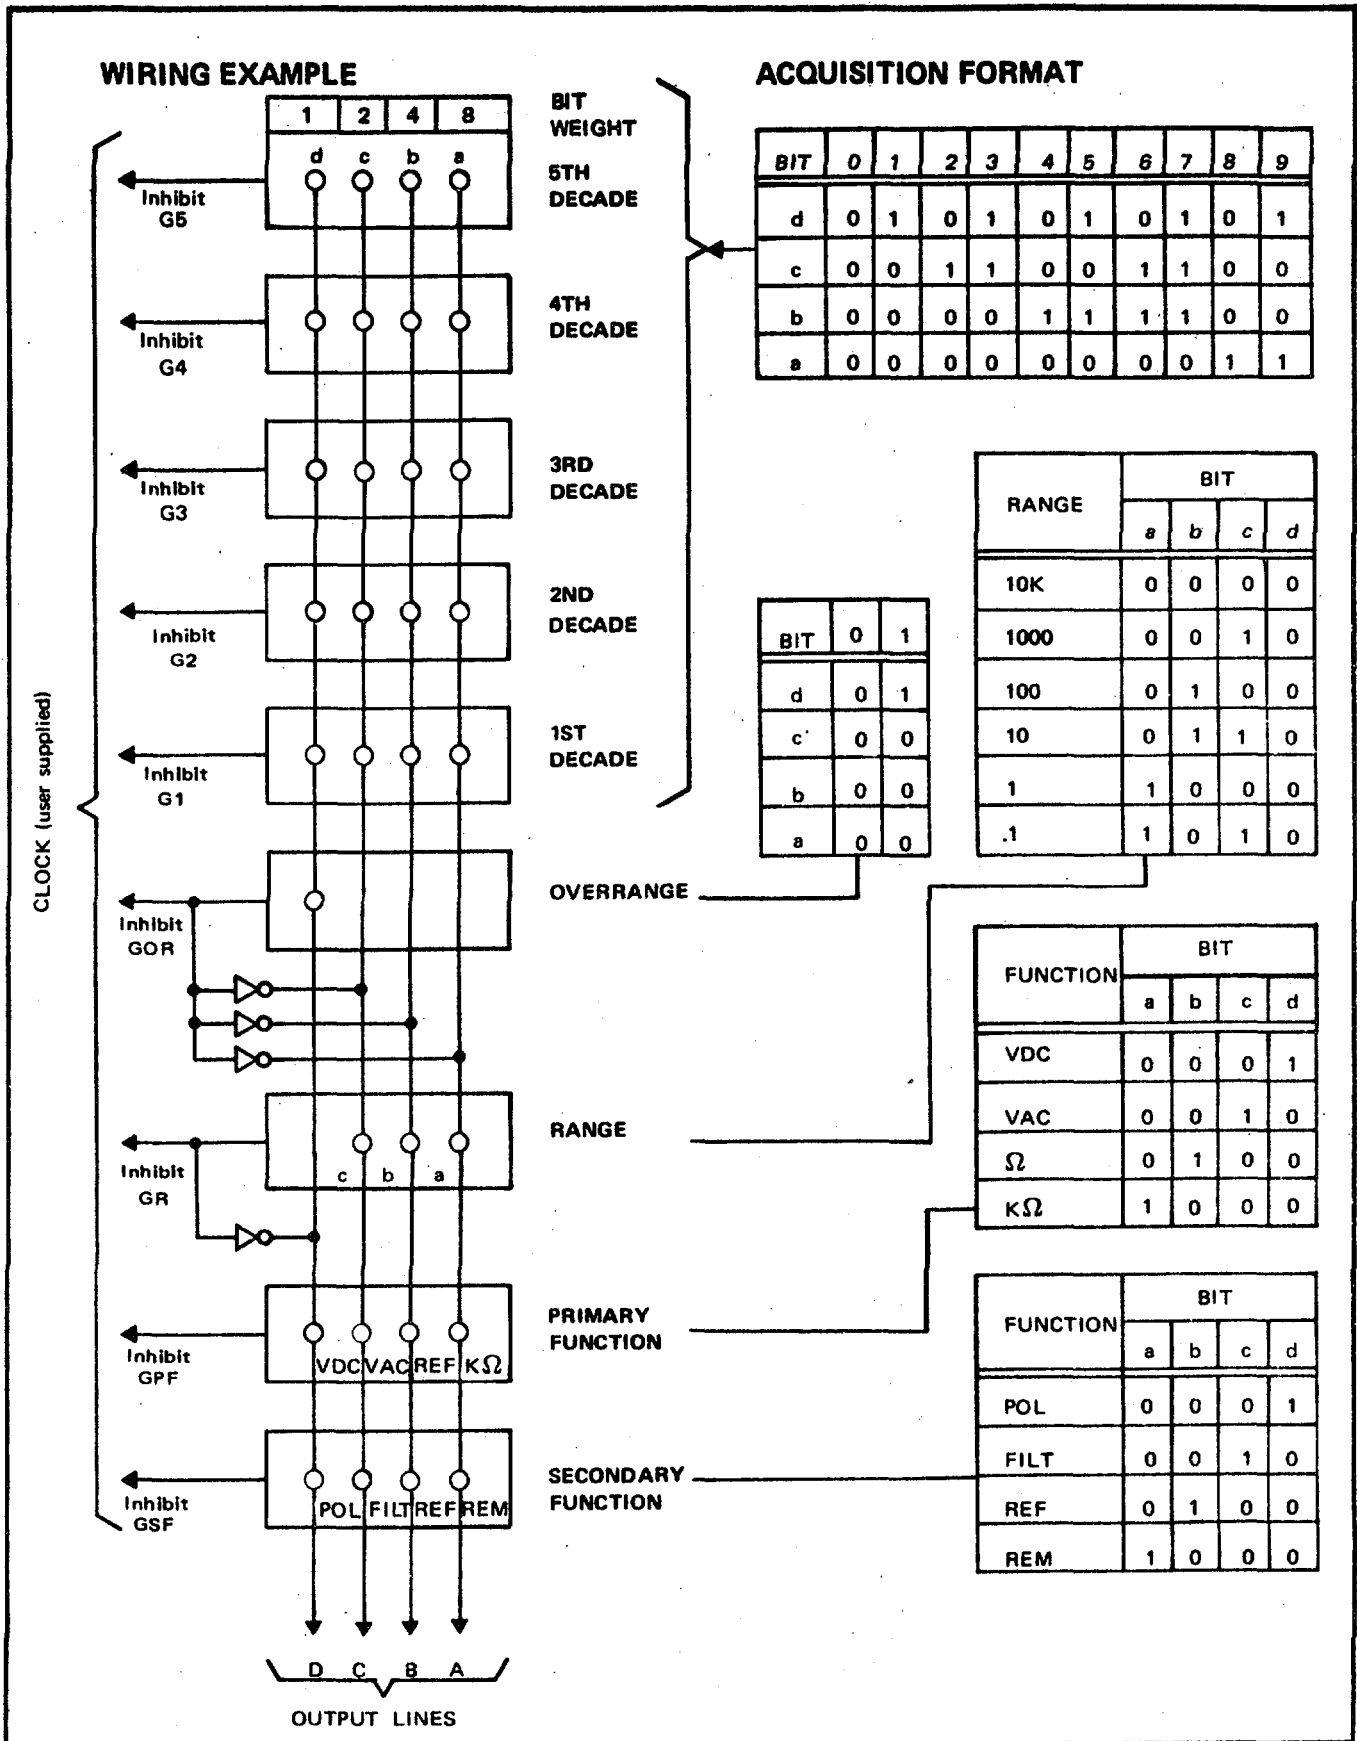

Figure 2-8. WIRING EXAMPLE, ACQUISITION FORMAT, AND TRUTH TABLES FOR SERIAL CHARACTER, PARALLEL BIT ACQUISITION
- b. Connect function, range, polarity, and digit outputs, in parallel, as shown in Figure 2-8 or in groups of 8, 12, 16 bits, etc., as desired.
- c. User supplied clock controls inhibit lines to determine the sequence of character acquisition. Data is transferred to the output lines when the associated inhibit lines are high. Truth tables and acquisition format are also shown in Figure 2-8.